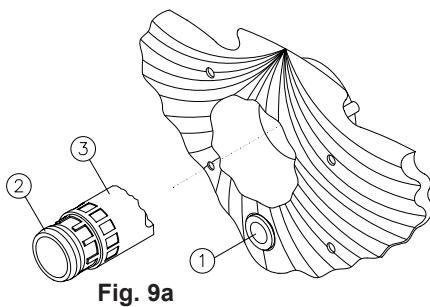

Fig. 9a
From inside the swimming pool, start the HIDROJET, by pressing the pneumatic switch (no.1, fig. 9a-9b).
With the unit running you can obtain a current of water alone, or mixed water and air, by setting the front nozzles (see fig. 9a-9b) as described below:
- Current of water only: The maximum flow of water is obtained by turning the internal nozzle (no.2, fig. 9a-9b) to the left. The flow rate is reduced by turning it to the right.
- Current of air and water: To control, or eliminate, the flow of air, turn the external nozzle (no.3, fig.9a-9b) to the left or right.